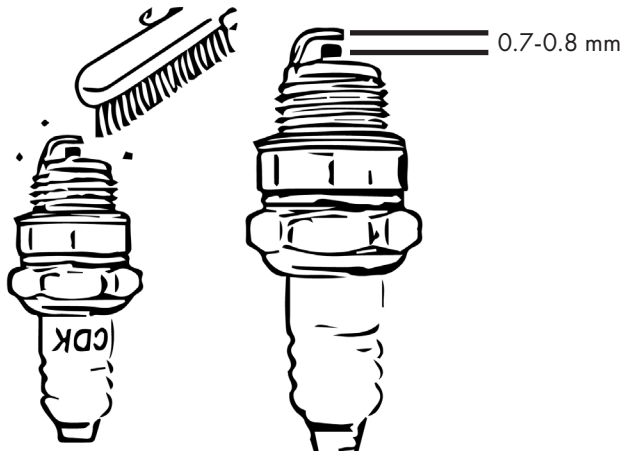

Figure 26
- Set the electrode gap to a target value of 0.7-0.8 mm. See Fig. 26.